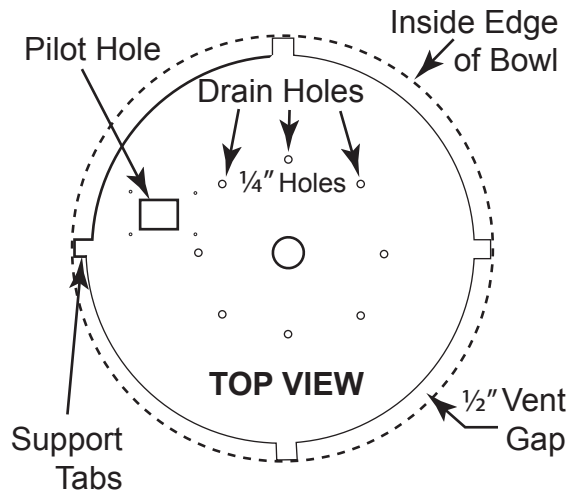

Fig. 6 Show top view of suggested disc for Natural Gas installation. **Note:** Not to be used for Propane Gas (LP).
- Bowls require cross ventilation at the bottom of bowl. Bowls require ventilation at the Top of bowl incorporated into the disc/pan. See Fig. 6.